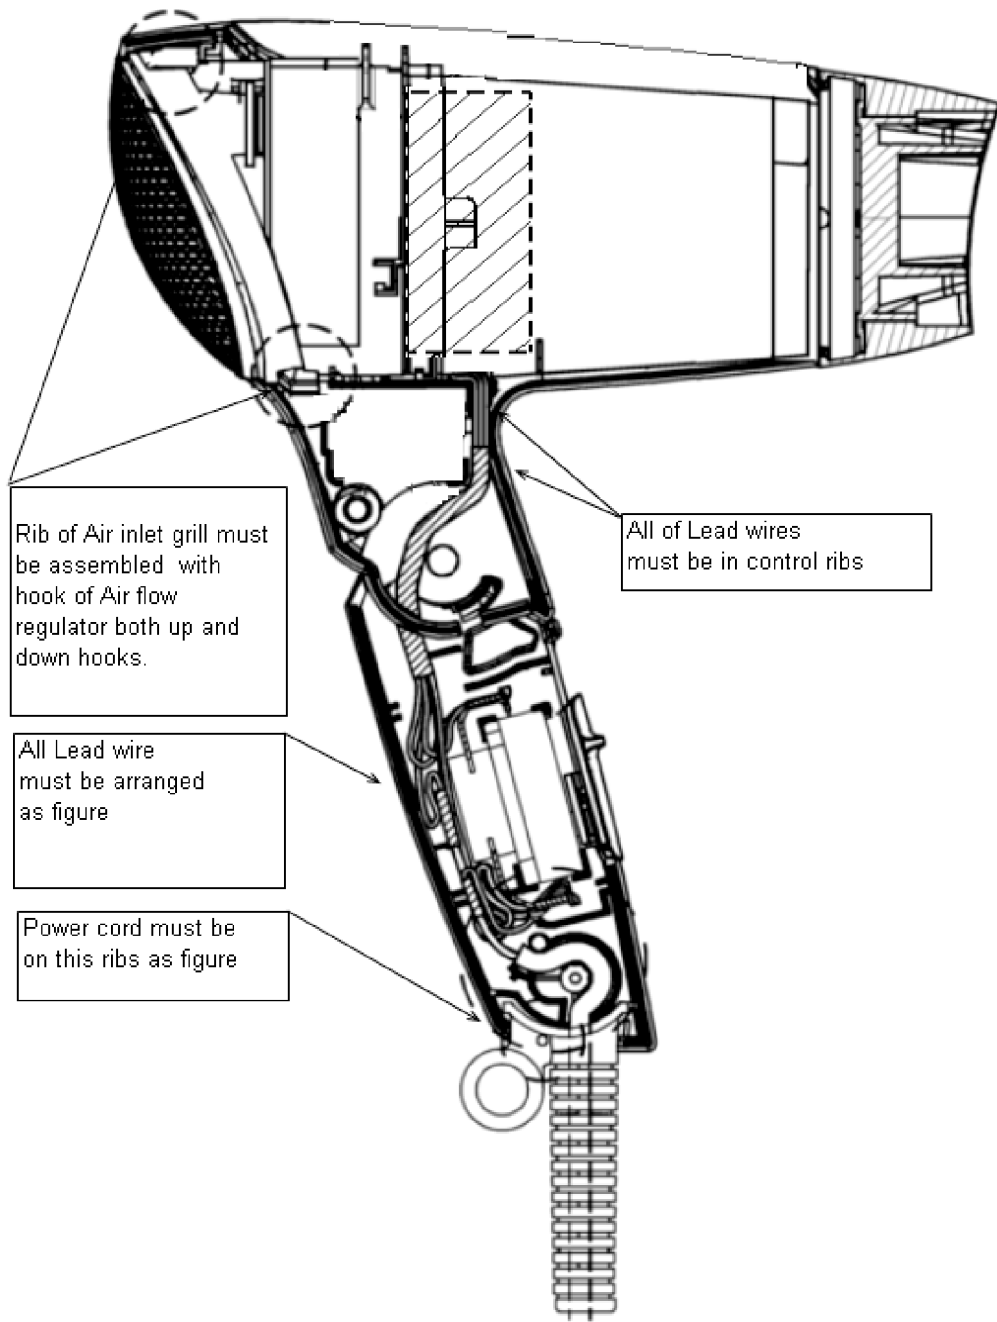

Figure 16
5. Assemble Motor heater block with Handle B and Housing B as figure 16.